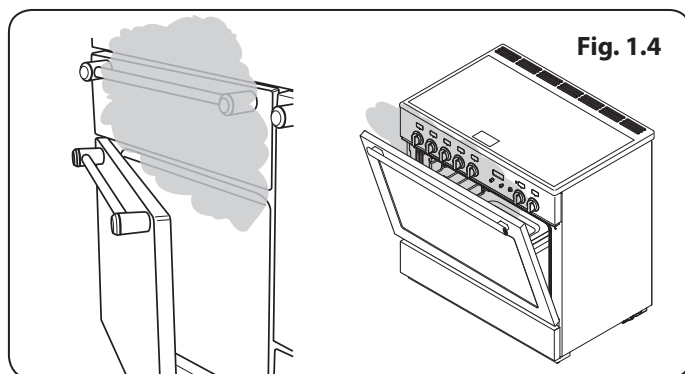

Fig. 1.4
- Cooking high moisture content foods can create a 'steam burst' when the oven door is opened (**Fig. 1.4**). When opening the oven, stand well back and allow any steam to disperse.